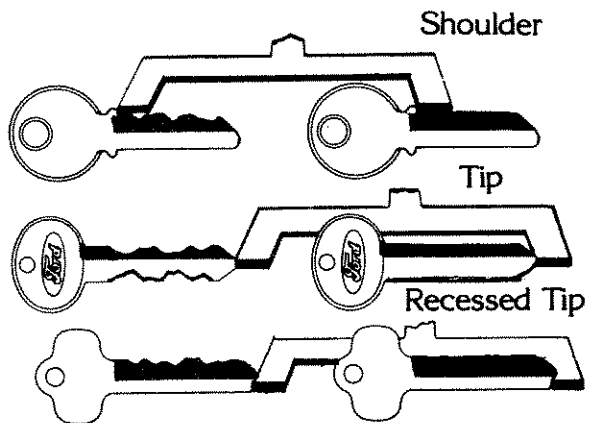

FIGURE 8
- 2) Place key blank in right hand jaw. The blank should be located in the jaw so the tip of the blank is parallel with back portion of the jaw. (see figure 8).